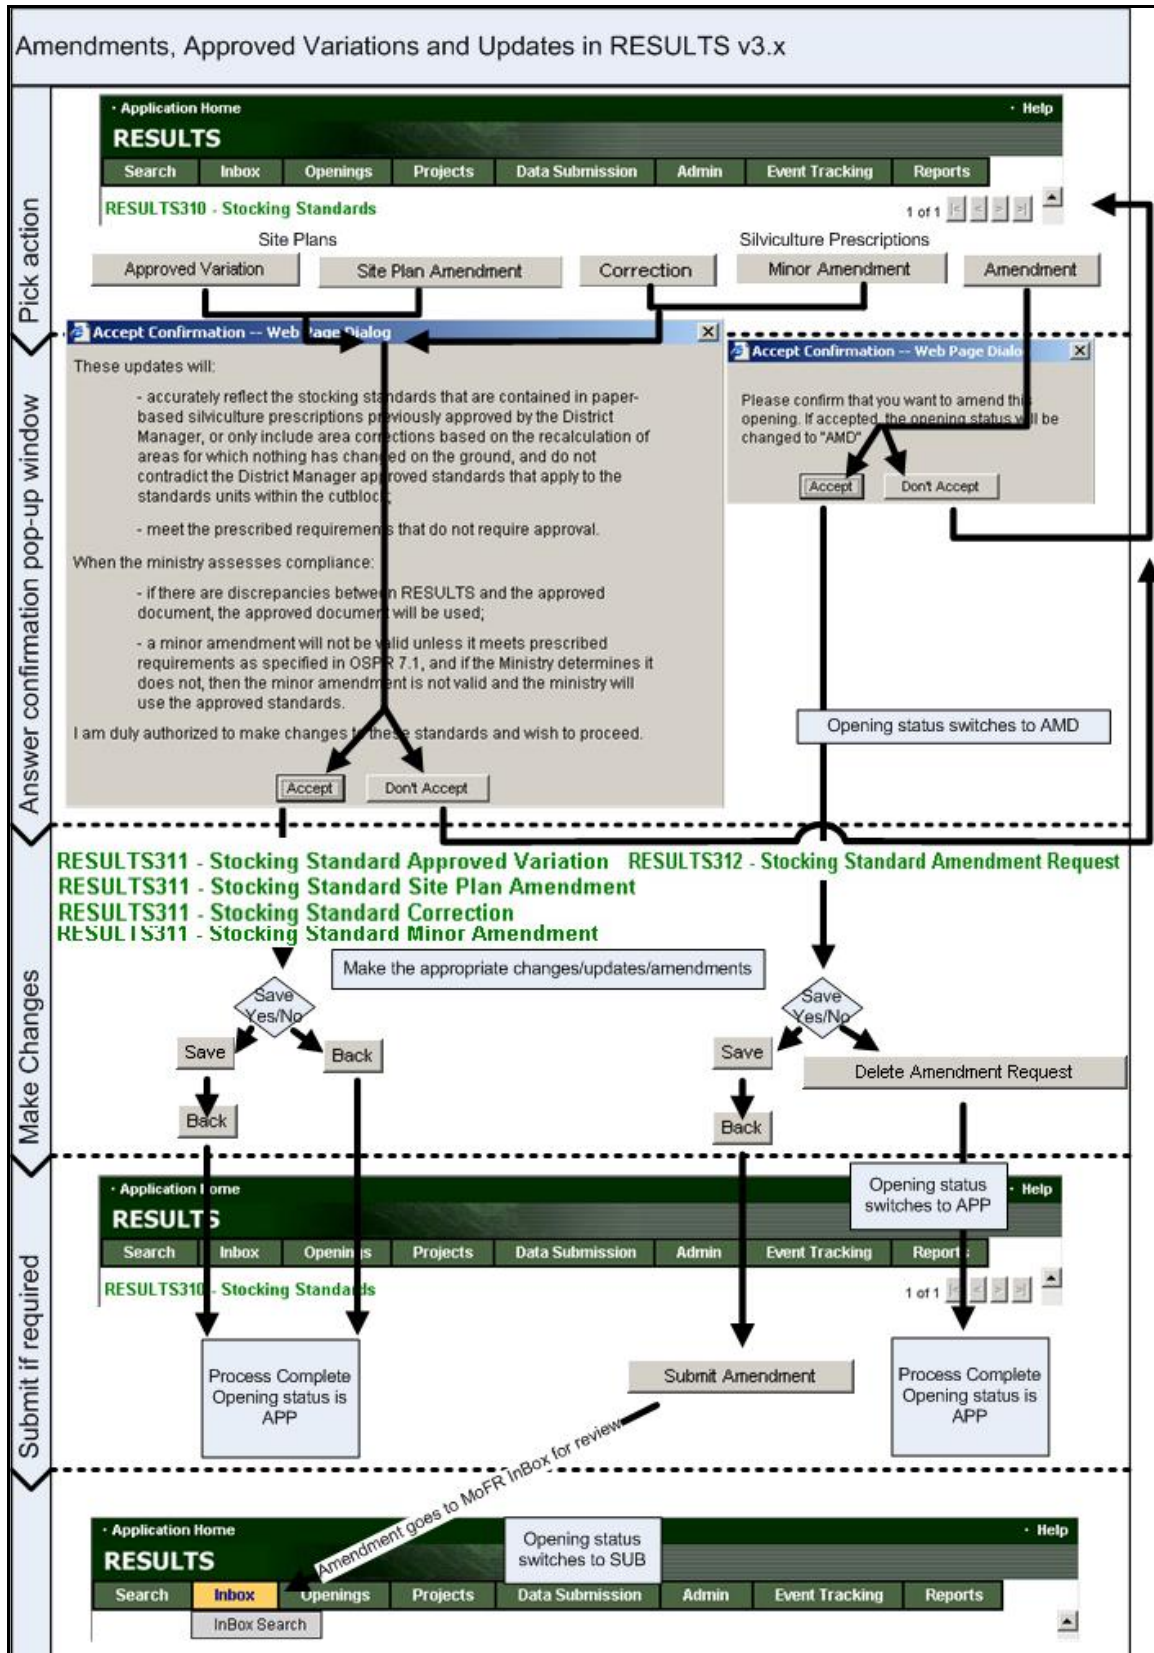

Figure 1 Data modification options available in RESULTS.
As of June 1, 2005 amendments/approved variations/corrections are submitted to the MFR through submissions to RESULTS via the ESF, or directly into RESULTS. Figure 1 illustrates available data modification options.
2. At the bottom of that screen, select the desired action (see Figure 1):